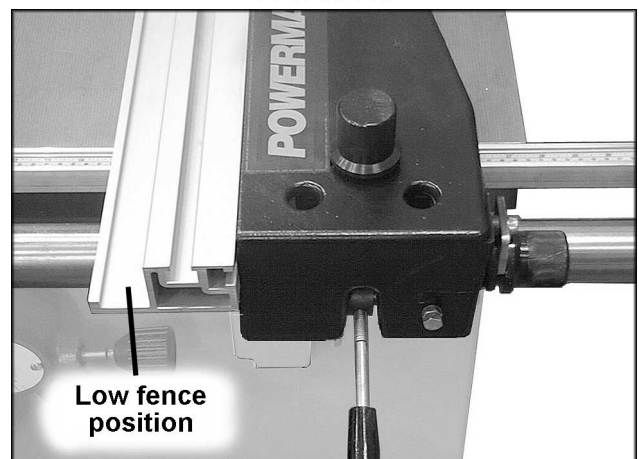

FIGURE 31
1. Loosen the aluminum fence lock, slide the fence off and slide it back on in the low position, as shown in Figure 31.